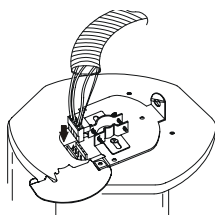

Figure 3
Step 3 – Plug connector into connector socket in the speaker's terminal cup. (Figure 3)